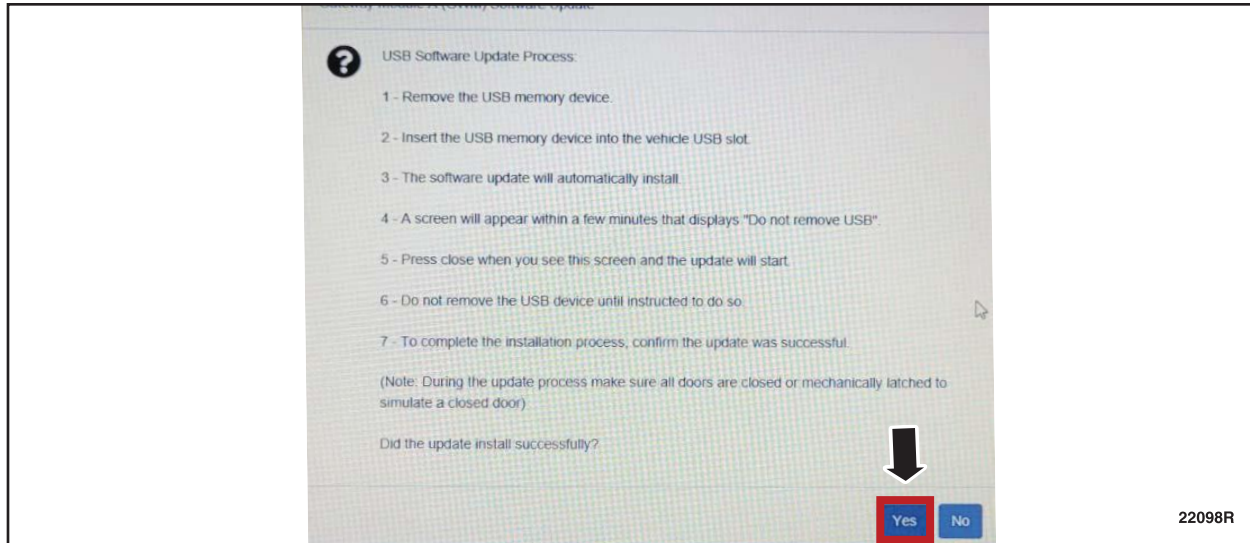

FIGURE 13
**IMPORTANT:** Do not select the Yes button in FDRS until the software update on the USB drive has been completed. See Figure 13.